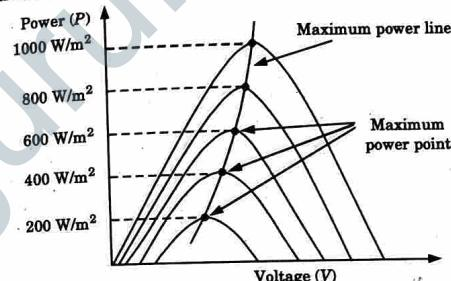

Fig. 3.20.2. P-V characteristic of a PV module.
- On the paper of these graphs, maximum power points are shown in Fig. 3.20.2.